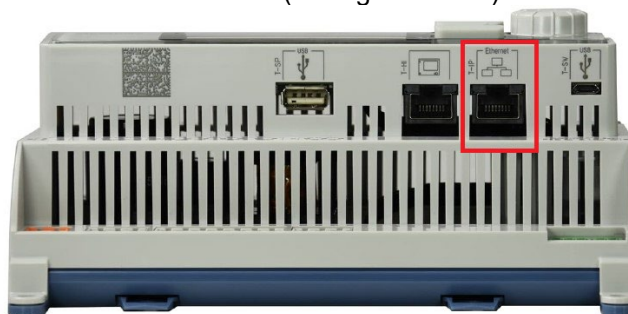

Figure no. 11
1. Connect Ethernet cable to Ethernet Port (see figure no. 11).